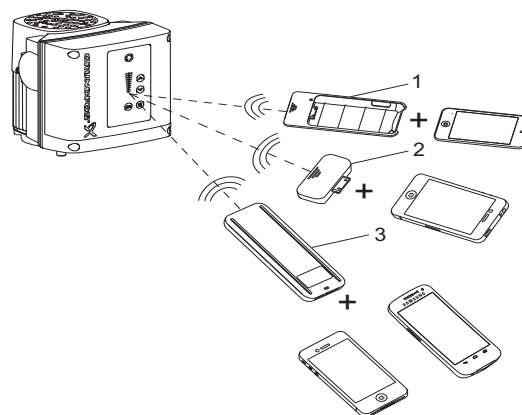

Fig. 17 Grundfos GO Remote communicating with the pump via radio or infrared light
The Grundfos GO Remote offers three different mobile interfaces (MI). See fig. 17.